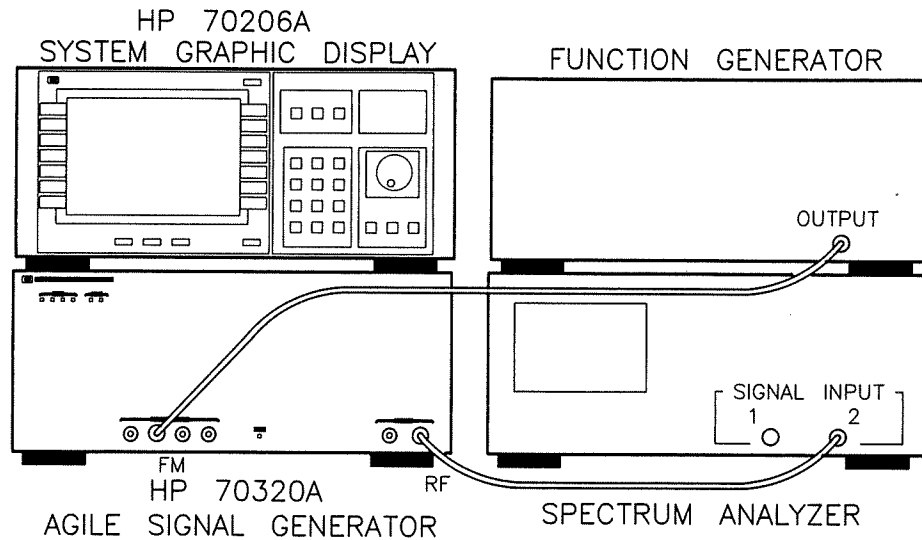

Figure 2-4. Equipment Setup for FM Procedure #2.
1. Connect the HP 70320A to the Spectrum Analyzer and Function Generator as shown in figure 2-4. Turn on the equipment and make the following adjustments: